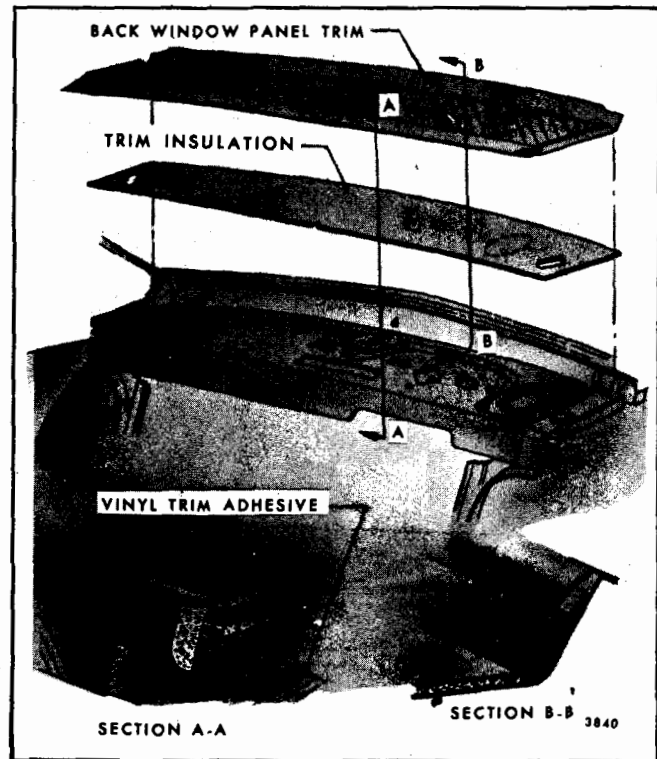

Fig. 13-34-Back Window Panel Trim Attachment
4. Carefully break cement bond securing trim assembly at seat back panel (Fig. 13-34).
6. To install, position trim assembly to back window panel by inserting rear edge of assembly under garnish molding or feature strip. Center and align front edge of trim assembly with front edge of seat back panel as shown in Figure 13-34. With non-staining vinyl trim adhesive, cement valance of trim assembly to seat back panel as shown. Then reverse balance of removal procedure.